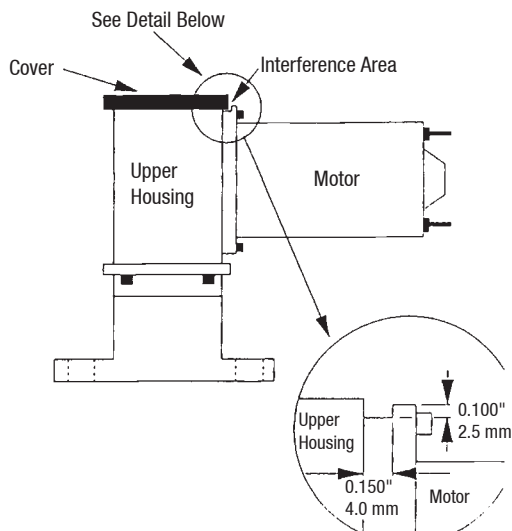

Fig. 1 - Electric Shift Unit Cover Fit Modifications
3. Using a file or small die grinder, remove material from the motor base (as shown in Fig. 1). **The notch should be at least 0.100" (2.5mm) deep and 0.150" (3.8 mm) wide.** Trial fit the cover during modification.